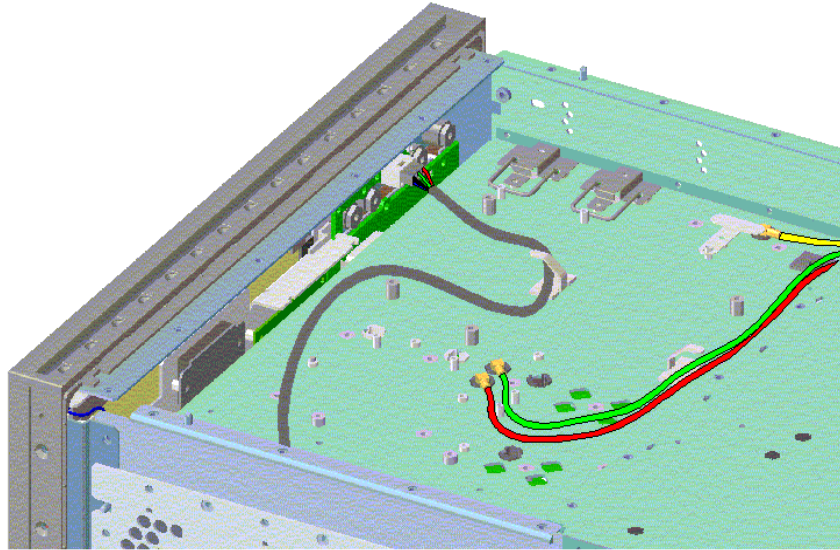

Figure 7:
STEP 9: Position the LAN cable, using the cable clamp from the kit, in accordance with **Figure 7** in Appendix A.